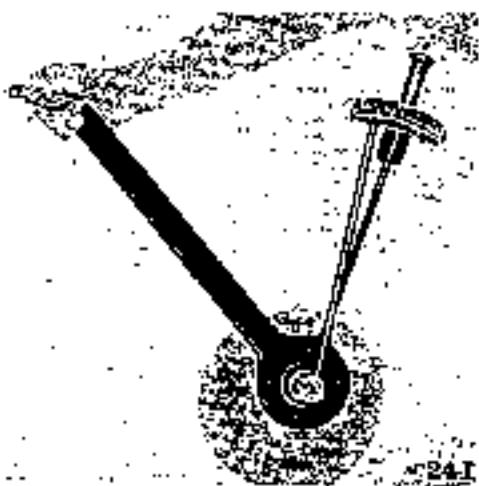

Fig. 7 Use of Drive Pinion Bearing Pre-load Gauge
Tighten up the pinion nut by turning it slowly with hands with the use of pre-load gauge as Fig. 7 to the degree that supports the bearing pre-load at 7-10 kg/cm.
(E) The formal adjustment of the drive pinion, bearing and preload. After the fixing position of drive pinion is decided as mentioned in the previous paragraph, take off the pinion nut & companion flange to mount again the drive pinion bearing spacer (distance piece) and nut. Tighten up the nut as Fig. 7 by using the torque wrench at the regular torque of 100-120 ft/lbs (1400-1680 kg-cm). The preload supported by the bearing in this case is different according to the condition of the bearing adjusting shim inserted. The more of the shims inserted, much the play of pinion to the direction of axle is increased.